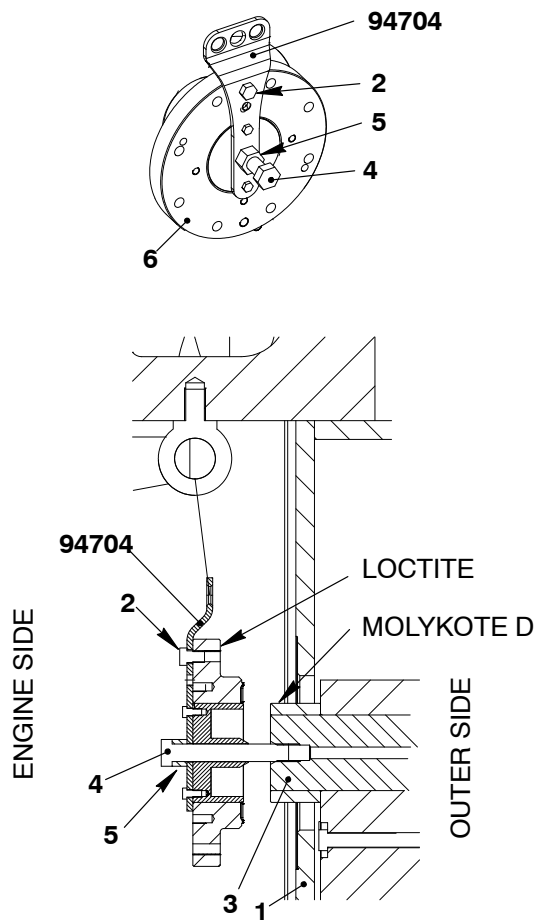
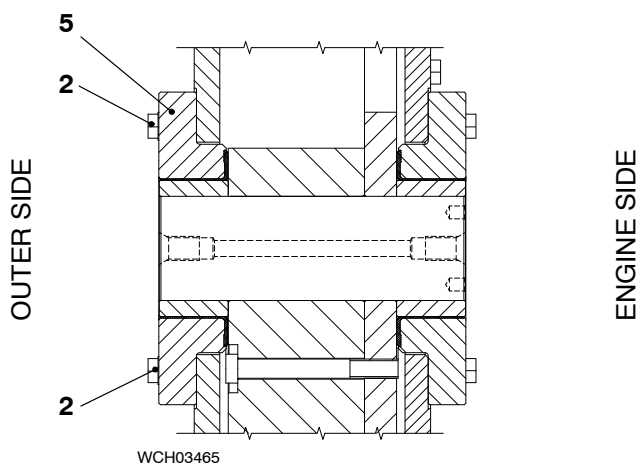

Fig. 6
Fig. 7
- 2) Attach the lifting tool (94704) to the bearing (6, Fig. 6).
- 4) Tighten the screw (2).
- 5) Operate the manual ratchet to move the bearing (6) in front of the pin (3).
- 6) Apply Loctite No. 640 to the surface of the bearing (6).
- 7) Apply Molykote D to the surface of the pin (3).
- 8) Install the screw (4) together with the nut (5) through the bearing (6) into the pin (3).
- 9) Remove the screw (2).
- 10) Align the taper pin holes with the column (1).
- 11) Turn the bearing (6) until the pin holes in the bearing are at 90° to the holes in the column (1).
- 12) Tighten the nut (5) and move the bearing (6) into the correct position on the column (1).
- Note: Operate the manual ratchet if the pin (3) is too low.**
- 14) Put four (of the eight) bolts M20x70 (2, Fig. 7) in position. Do not tighten the four bolts at this step.